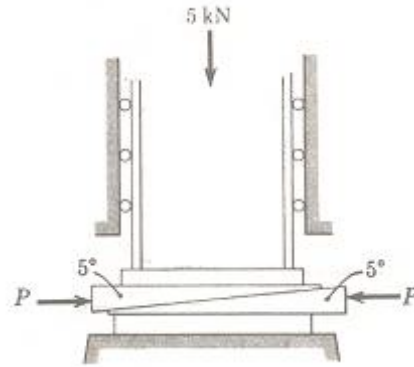

Figure 4
7. The two 5° wedges shown in Figure 4 are used to adjust the position of the column under a vertical load of 5 kN. Determine the magnitude of the forces P required to raise the column if the coefficient of friction for all surfaces is 0.40. [16]